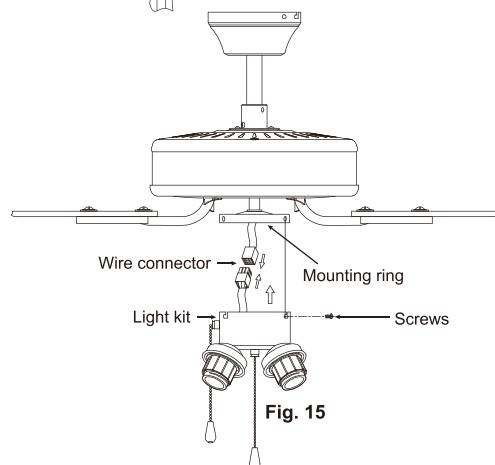

Fig. 15
Step 1. While holding the light kit under your ceiling fan, push the square wire connectors together. One from the fan and one from the light kit (**Fig. 15**).
Step 2. Carefully push all the wires into the light kit. Attach the light kit to the mounting ring with the screws provided. Make sure each screw is tight (**Fig. 15**).